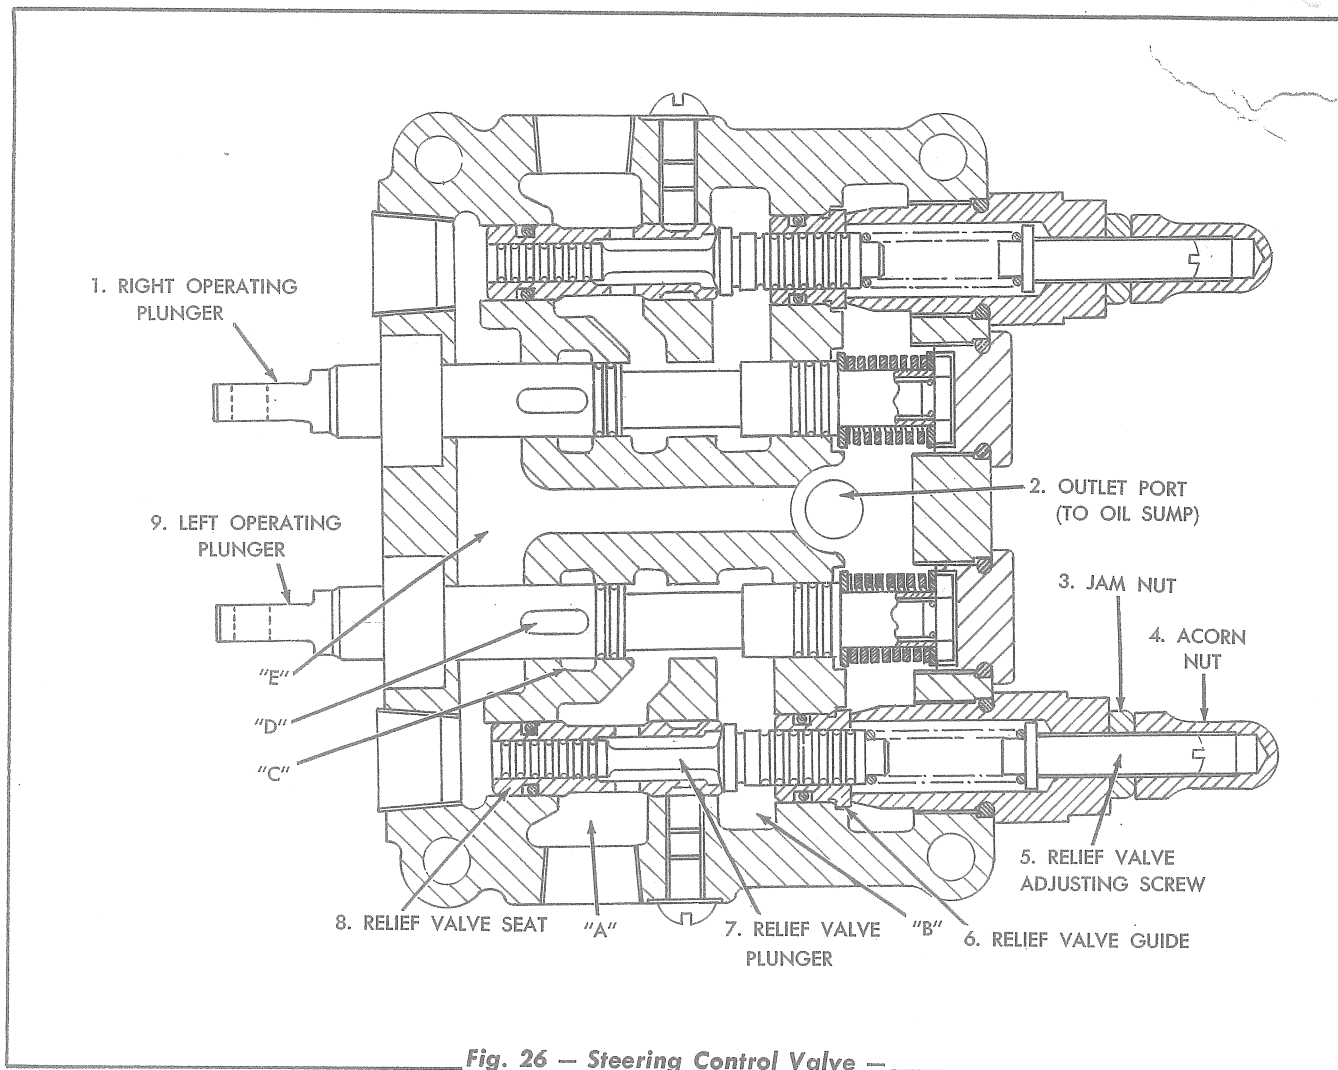
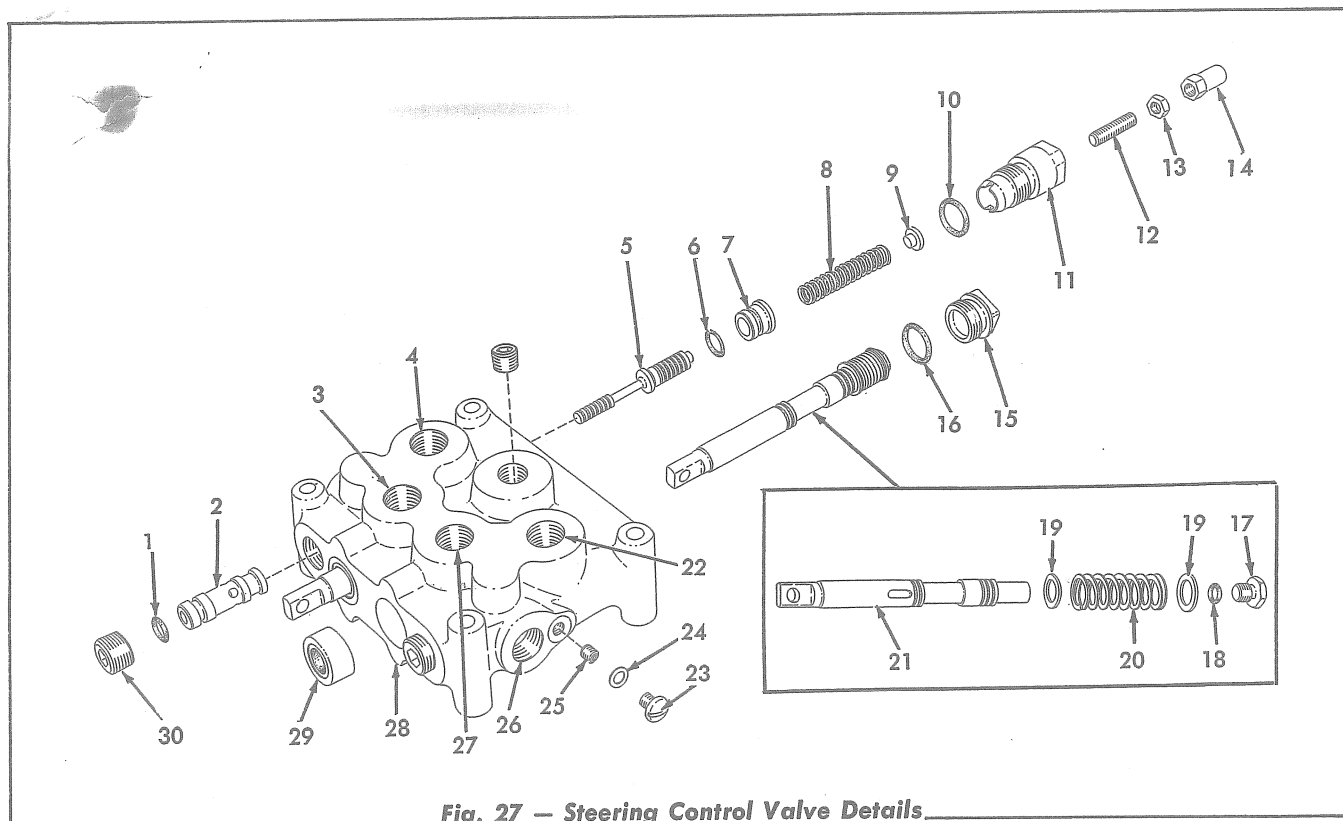

Fig. 26 — Steering Control Valve —
Fig. 27 — Steering Control Valve Details.
The steering control valve is mounted on the bevel gear compartment cover. The steering control valve is actually two control valves contained in a common housing (refer to Fig. 26). Each valve has an independent oil supply and contains an operating plunger and an adjustable type pressure relief valve. The hydraulic pump has two sets of gears. The front set of gears supply oil to the left side of the steering control valve and the rear set of gears supply oil to the right side of the valve. Oil supplied to the left side of the steering control valve disengages the left steering clutch when the left steering control lever is pulled back and also supplies oil under circulating pressure to the right brake operating control valve. Oil supplied to the right side of the steering control valve disengages the right steering clutch when the right steering control lever is pulled back and also supplies oil under circulating pressure to the left brake operating control valve.
When the left steering control lever is in the neutral position, the left operating plunger is in approximately the position shown in Fig. 26. Oil under circulating pressure entering cavity "A" (Fig. 26) through the left inlet port flows into cavity "B" and out of cavity "B" through the outlet port (located in the top of the valve housing Fig. 27) to the right brake operating control valve. No pressures are built up within the valve and the left steering clutch remains engaged.
When the left steering control lever is pulled back, the left operating plunger is pulled forward $\frac{1}{4}$ ". The forward movement of the plunger closes cavity "B" and opens cavity "C" (Fig. 26). At the same time the slotted hole in the plunger (cavity "D") moves forward so that it no longer registers with cavity "C". Oil entering cavity "A" (Fig. 26) through the left inlet port flows into cavity "C" and out of cavity "C" through the outlet port (located in the top of the valve housing Fig. 27) to the left steering clutch. Pressure builds up in cavities "A" and "C" and behind the actuating piston in the left steering clutch and disengages the steering clutch. When the pressure in cavities "A" and "C" reaches the relief valve opening pressure, the relief valve
When the left steering control lever is returned to the neutral position, the left operating plunger returns to approximately the position shown in Fig. 26. The slotted cavity in the plunger (cavity "D") allows oil to transfer from cavity "C" to cavity "E" and the oil pressure drops to circulating pressure in cavities "A", "C", "B" and behind the actuating piston in the left steering clutch. When the oil pressure against the steering clutch actuating piston drops to circulating pressure, the steering clutch pressure springs cause the clutch to engage. The excess oil entering cavity "E" returns to the oil sump in the bevel gear compartment through the port in the bottom of the valve housing (Fig. 26).
2. Loosen the relief valve adjustment caps Fig. 27, and remove the caps, acorn nuts, jam nuts, and adjusting screws as an assembly. Remove the relief valve spring guide and the relief valve spring.
4. Push the relief valve plungers and the relief valve guides (Fig. 27) out of the valve housing toward the rear.
5. If it is necessary to remove the relief valve seats (Fig. 27), remove the slotted head screw and gasket from each side of the valve housing then remove the hex-socket setscrews (Fig. 27). Press the relief valve seats out of the housing toward the front.
6. Remove the operating plunger caps (Fig. 27) from the rear of the valve housing. Remove the spring retaining capscrew, spring, and washers from the rear end of each operating plunger and pull the plungers from the valve housing from the front.
The steering control valve may be assembled and installed by a direct reversal of the removal and disassembly procedure. After the valve is installed and connected the adjustment of the pressure relief valves must be tested and the relief valves adjusted if necessary (refer to "PRESSURE TESTING OF HYDRAULIC SYSTEM" in this Section). **CAUTION:** If for any reason the pressure relief valve adjusting screw was removed; when the adjusting screw is installed, turn it in only far enough to contact the relief valve spring guide (Fig. 27) then test and adjust the pressure relief valve.
housing, that the groove in the O. D. of the seat is aligned with the tapped hole for the hex-head setscrew (refer to Fig. 26). Then install the set-screw and the slotted head screw and gasket in each side of the control valve housing.